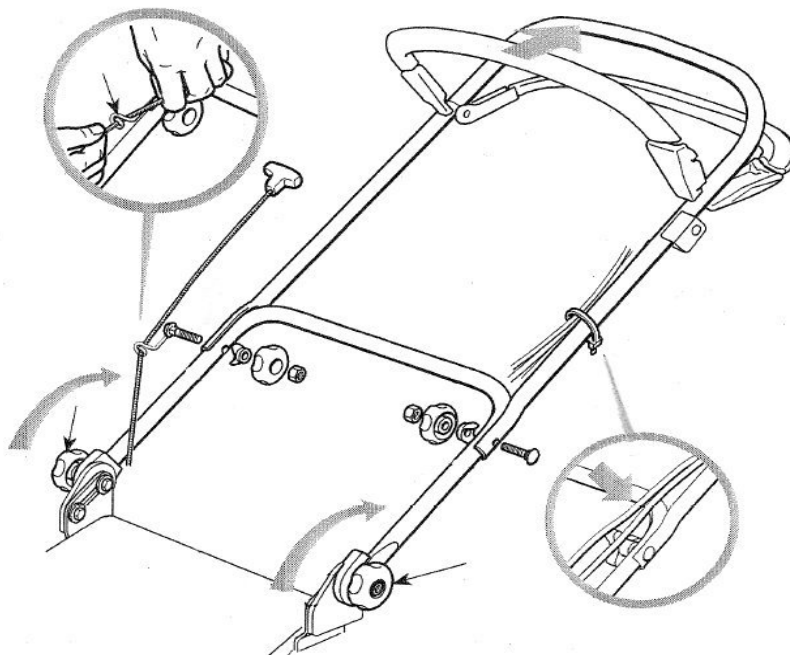

Figure 1
- Raise the handles to the upright position. With the fixing bolts in place tighten the hand wheels and check the pivot bolts are also tight (Figure 1).